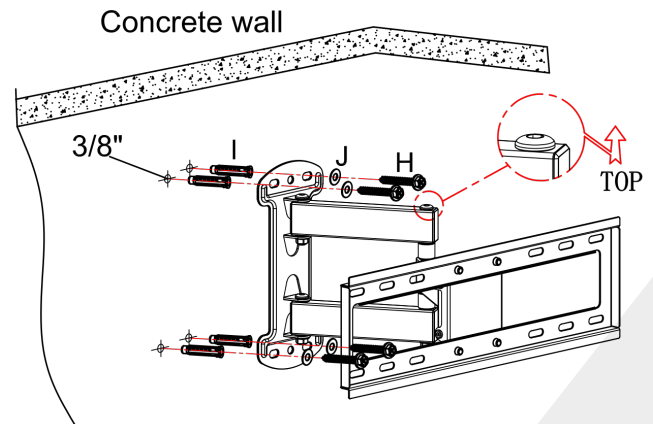

Figure 1
- Fix the wall plate by using the lag bolt screws (H) and washers (J) (Figure 1)